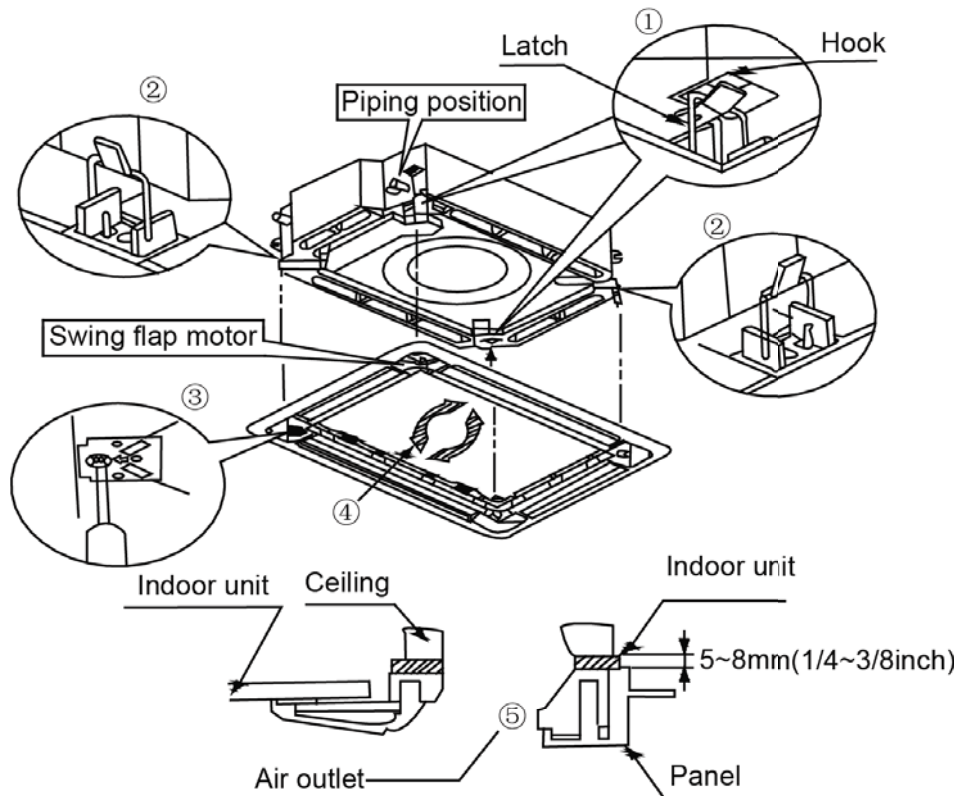

Figure 3-1-31
- (2) Place the panel at the unit, and latch the hooks beside and opposite the swing flap motor.
- (3) Latch other two hooks.
- (4) Tighten four hexagonal screws under the latches about 15mm.
- (5) Adjust the panel along the direction indicated by the arrow as shown in Figure 3-1-31.
- (6) Tighten the screws until the thickness of the sealing material between the panel and the indoor unit reduces to 5-8cm.